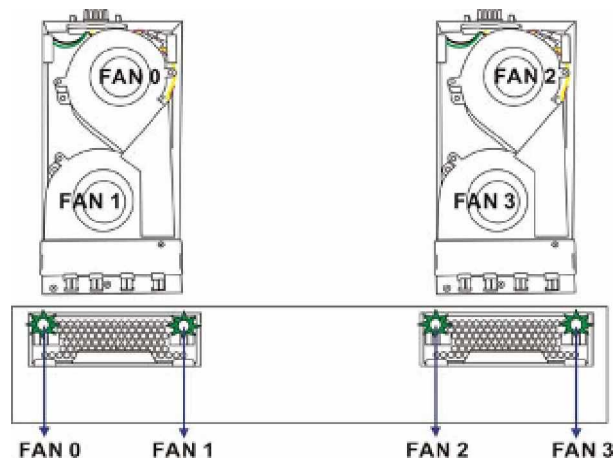

Figure 4-11: Cooling Module LEDs and Cooling Fan Locations
Each cooling module has two (2) red LEDs on the back. Each LED corresponds to a single fan in the cooling module. (See **Figure 4-11**) Please refer to the cooling module LED definitions shown in **Table 4-10**.